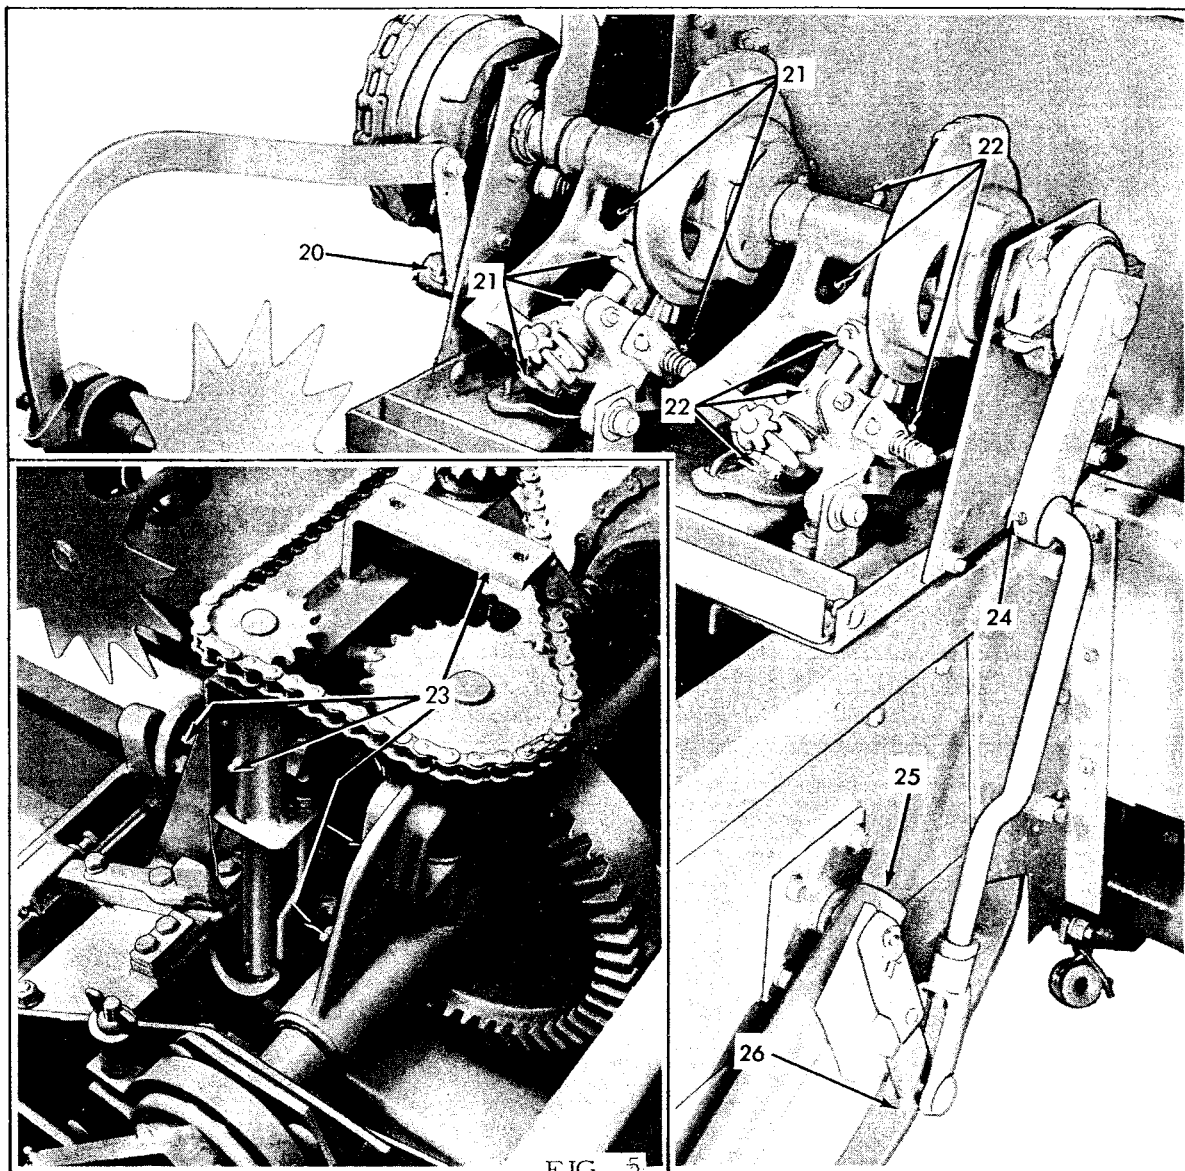

FIG. 5
- 20. Knotter trip pin (Fig. 5)
- 21. L.H. knotter - 6 fittings (twice daily)(Fig. 5)
- 22. R.H. knotter - 6 fittings (twice daily)(Fig. 5)
- 23. Wire twister - 6 fittings (twice daily)(Fig. 5)
- 24. Needle crank arm (Fig. 5)
- 25. R.H. needle pivot (twice daily)(Fig. 5)
- 26. Needle frame arm pivot (Fig. 5)